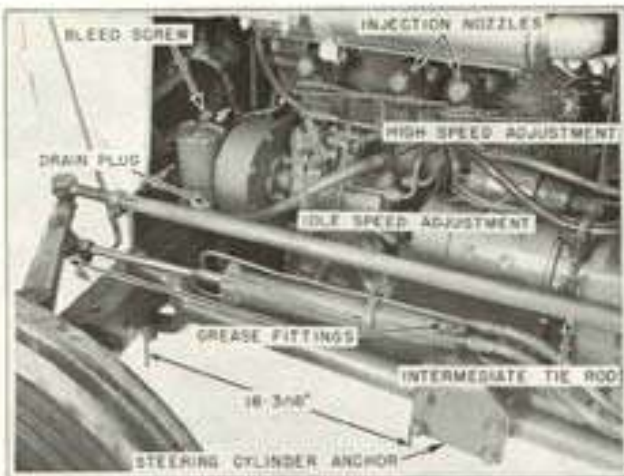

Figure 8-3 Steering Cylinder Grease Fittings
Lubricate the power steering cylinder sockets with pressure gun grease daily or every 10 hours of tractor operation. (See Figure 8-3.)
The steering cylinder anchors are located 18-3/16 inches behind the center of the holes in the stay rod yokes on fixed tread front axle and adjustable front axle tractors for tread widths ranging from 52 to 68 inches. (See Figure 8-3.) It is necessary to relocate the anchors to 17-11/16 inches behind the above referenced point for 72 inch tread settings to utilize full turning ability of the tractor. Always square up the U-bolts and be sure to tilt the left anchor outward 15 degrees whenever the anchors are repositioned; then torque the anchor nuts to 65-72 foot pounds. The left anchor must be tilted to provide clearance between the steering cylinder grease fitting and the starting motor during axle oscillation.
Check the toe-in after changing the front tread setting. To check the toe-in turn the wheels straight ahead and inflate the tires to the recommended pressure. Measure between the outside edges of the center tire rib at the front (B) and the rear (A) at hub height. (See Figure 8-5.) Rotate the wheels one half turn and repeat the measurements. Determine the averages of the front and rear readings separately. The average distance at the front of the tires should be 3/16 inch less than at the rear. If adjustment is necessary, loosen the tie rod clamp cap screws at both ends of the intermediate tie rods. (See Figure 8-3.) Rotate the intermediate tie rods to adjust the toe-in. Adjust both tie rods equally. When the toe-in is correct, the left tie rod should be approximately 2-9/32 inches longer than the right one. Tighten the clamp cap screws and recheck the toe-in.